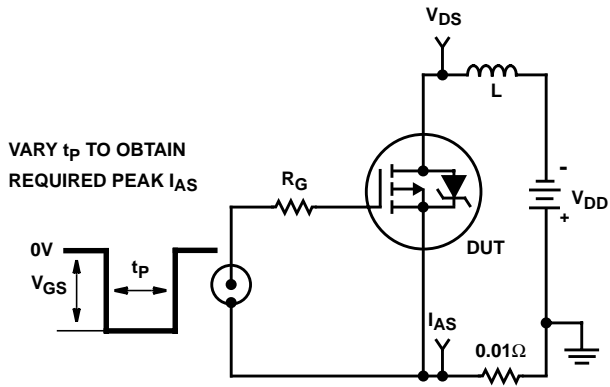

FIGURE 15. UNCLAMPED ENERGY TEST CIRCUIT
- $V_{DD} = 25V$ , starting  $T_J = 25^{\circ}C$ ,  $L = 5.2mH$ ,  $R_G = 25\Omega$ , peak  $I_{AS} = 12A$ . See Figures 15, 16.